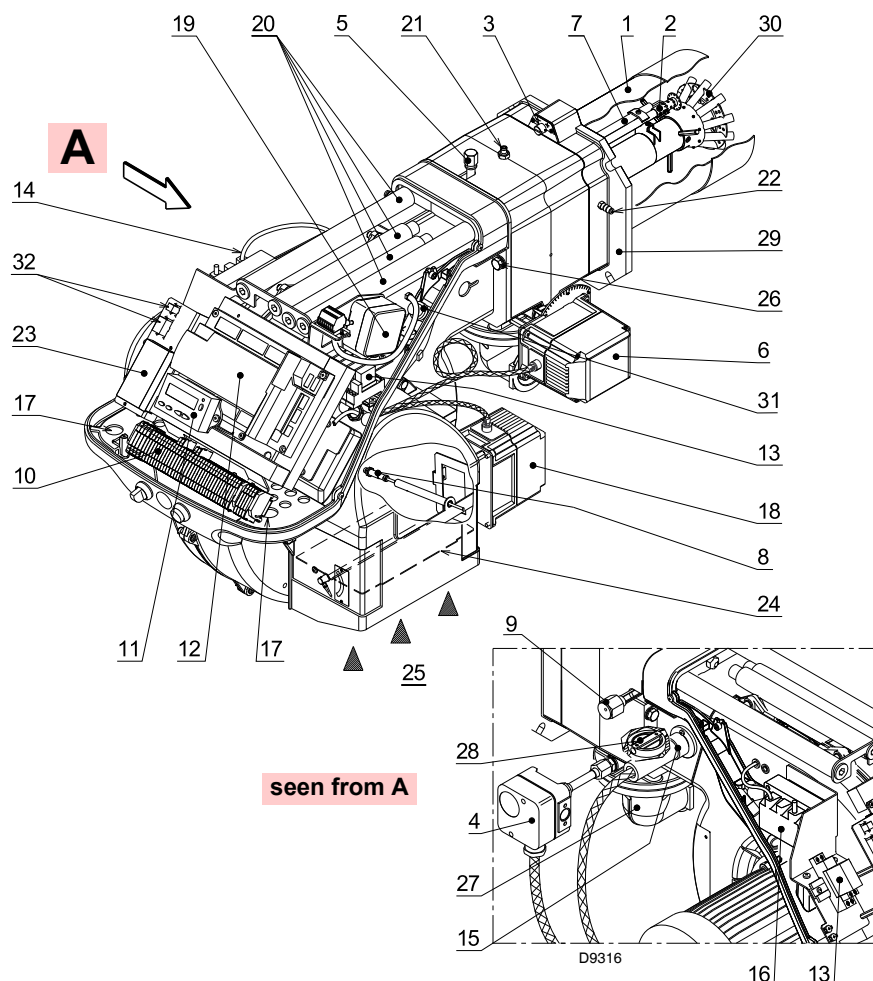

Fig. 5
- (2) Pressure at test point 21) (Fig. 5), with zero pressure in the combustion chamber, with open gas ring 2) (Fig. 21) at maximum burner output.